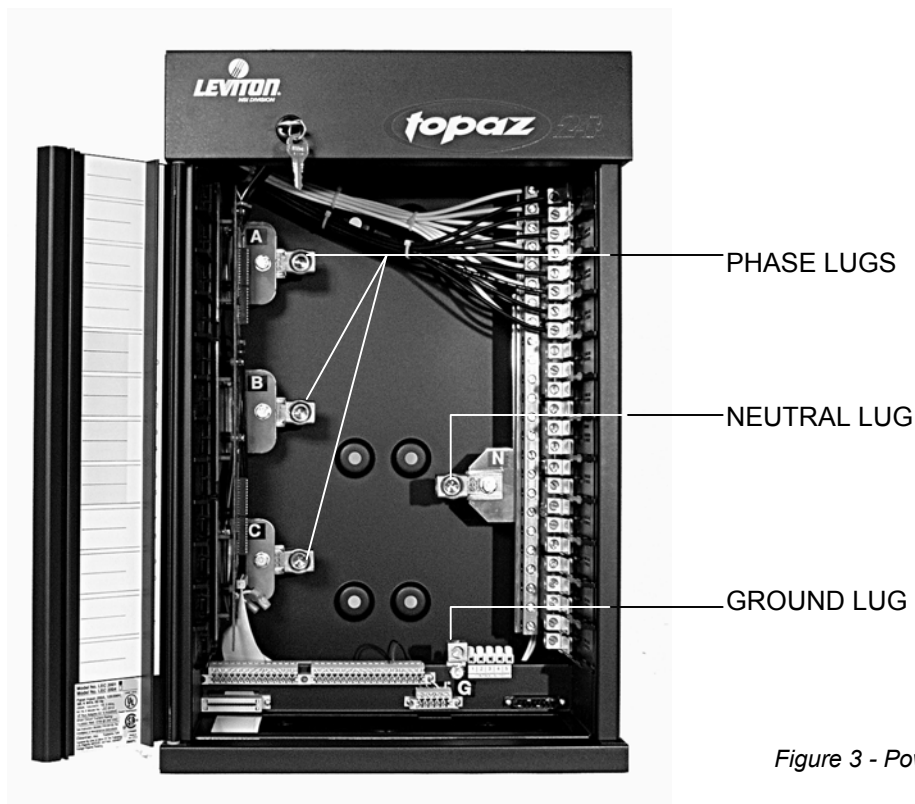

Figure 3 - Power Lug Locations
- Remove the terminal lugs on the ØB bus and either the ØA or ØC bus. Refer to Figure 3. Keep the hardware, as it will be reused below.
See Figure 3 for lug locations. (If rack has been converted to single phase, only lugs A & C will be terminated.)